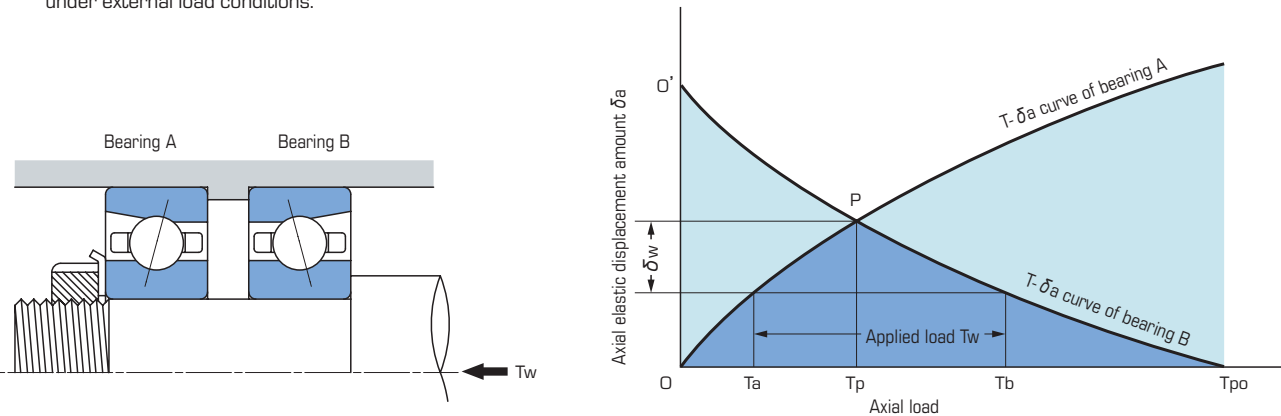

Figure 5.3 Fixed-position Preload
- Graphic analysis of load distribution and axial displacement on two bearings when preload is applied with an external load, as shown in Figure 5.3, is performed as described below.
- ① Graph the Axial Load T - Axial Deflection δ_a curve for bearing A.
- ② Locating preload T_p on the T-axis, determine the point of intersection for bearing A curve, and then graph the T - δ_a curve for Bearing B point P.
- ③ Link the above two curves horizontally along the T-axis for a length that corresponds to the external load value T_w .
- ④ Loads T_a and T_b , which correspond to the points of intersection of the lines, are the loads of each bearing under external load conditions.
- ⑤ Axial displacement is given as bearing B displacement δ_w . (Bearing B displacement is the displacement for T_p subtracted from the displacement for T_b .)
- The reason for this is that the displacements of two preloaded bearings are not uniform within the range that the preload does not become zero due to outside load. (Figure 5.3 is uniform). In other words, bearing A is displaced only as much as bearing B is displaced by the external load.
- After external load becomes great and preload is eliminated, bearing B load T_b becomes the same as external load T_w , and bearing A load is eliminated. The size of the external load when this preload is eliminated is indicated in Figure 5.3 as T_{po} .